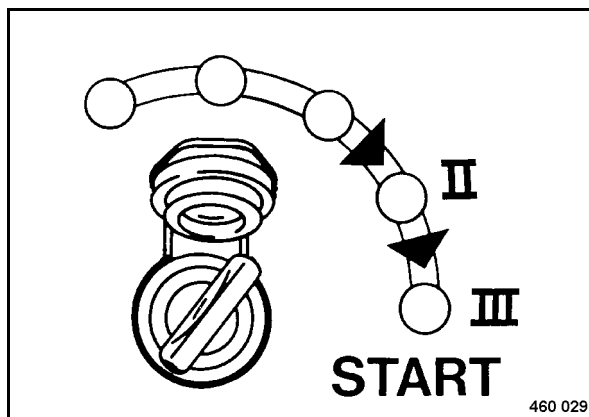

Fig. 42
- Turn the ignition key (Fig. 42) through position "II" to position "III", the starter will crank the engine.